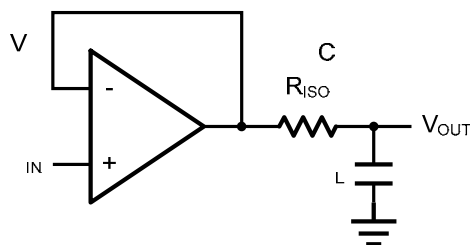
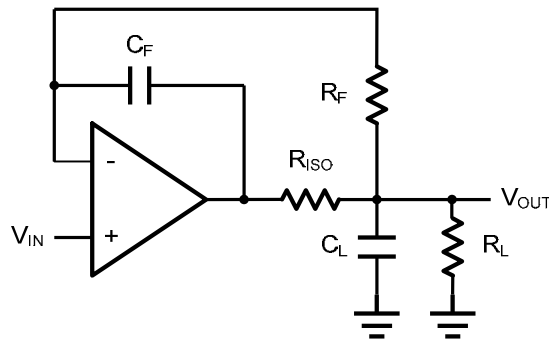

Figure 2 Indirectly Driving a Capacitive Load Using Isolation Resistor
Figure 3. Indirectly Driving a Capacitive Load with DC Accuracy
The HAD854X family is optimized for bandwidth and speed, not for driving capacitive loads. Output capacitance will create a pole in the amplifier's feedback path, leading to excessive peaking and potential oscillation. If dealing with load capacitance is a requirement of the application, the two strategies to consider are (1) using a small resistor in series with the amplifier's output and the load capacitance and (2) reducing the bandwidth of the amplifier's feedback loop by increasing the overall noise gain. Figure 2 shows a unity gain follower using the series resistor strategy. The resistor isolates the output from the capacitance and, more importantly, creates a zero in the feedback path that compensates for the pole created by the output capacitance.
The circuit in Figure 3 is an improvement to the one in Figure 2.  $R_F$  provides the DC accuracy by feed-forward the  $V_{IN}$  to  $R_L$ .  $C_F$  and  $R_{ISO}$  serve to counteract the loss of phase margin by feeding the high frequency component of the output signal back to the amplifier's inverting input, thereby preserving the phase margin in the overall feedback loop. Capacitive drive can be increased by increasing the value of  $C_F$ . This in turn will slow down the pulse response.